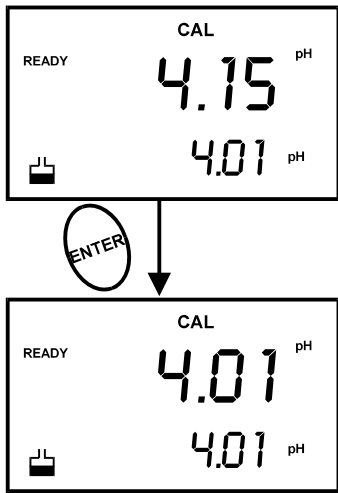

Figure 9 - Next point calibration for pH 4.01
8. Follow steps 5 and 6 for additional calibration points. See Figure 9.